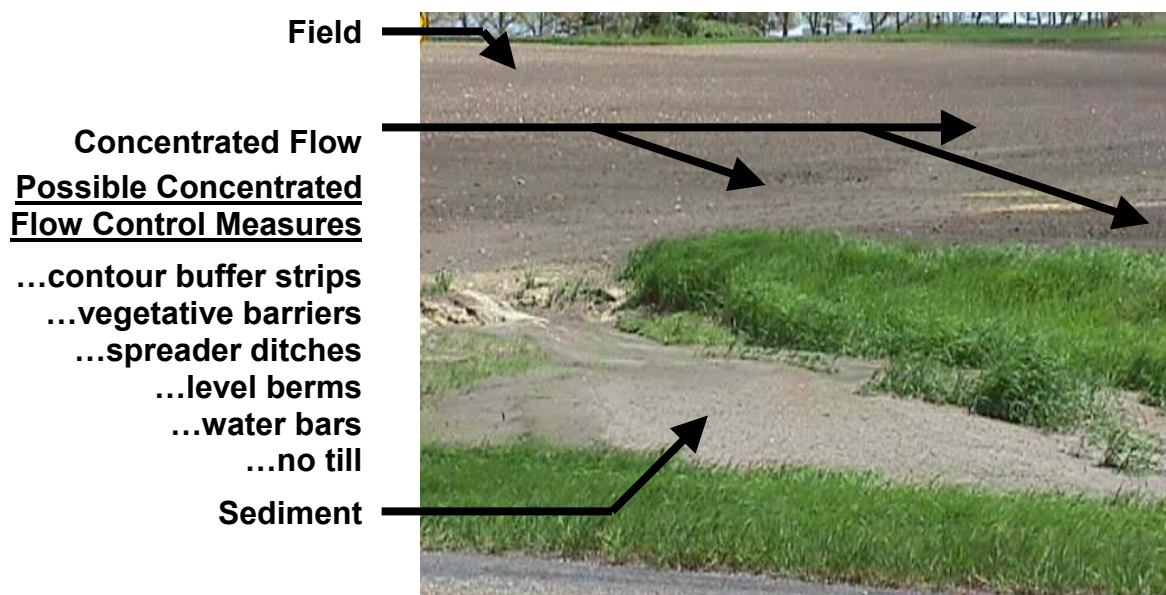

**Figure 1**
**Figure 1** depicts sediment that was initially deposited after a wind erosion event and subsequently reworked by water. The **field** was eroding at rates higher than appropriate for long term effectiveness of the filter strip. A wide assortment of conservation practices, such as conservation tillage, rotations, windbreaks, herbaceous wind barriers, cross wind trap strips, to name a few, would greatly reduce sediment entering the filter strip. The **field/filter strip edge** effectively initiated sedimentation into the filter strip. (The grass of this filter strip was functioning as a cross wind trap strip during the wind erosion event.) **Sediment deposit # 1** was initially deposited by wind within 20 to 30 feet of the edge of the filter strip. A later runoff event eroded the wind deposited sediment and carried some of it farther into the filter strip and deposited it as **sediment deposit # 2**.